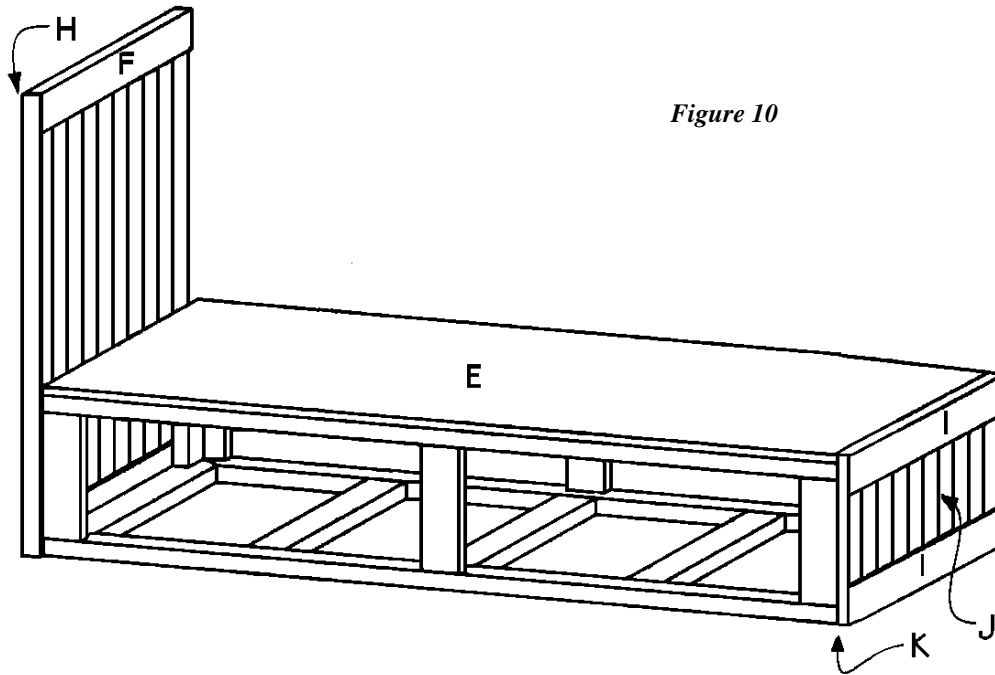

Figure 10
7. Attach the footboard assembly to the foot of the bed frame, as shown in *Figure 10*. Note that the footboard assembly extends 3/4 inch past the frame assembly at the front and 1/4 inch above the platform (E). Apply glue to the meeting surfaces and screw through the bottom of the footboard assembly into the bottom base frame. Also screw through the top of the footboard assembly into the top of the base frame. Use 2-1/2-inch screws spaced about every six inches.